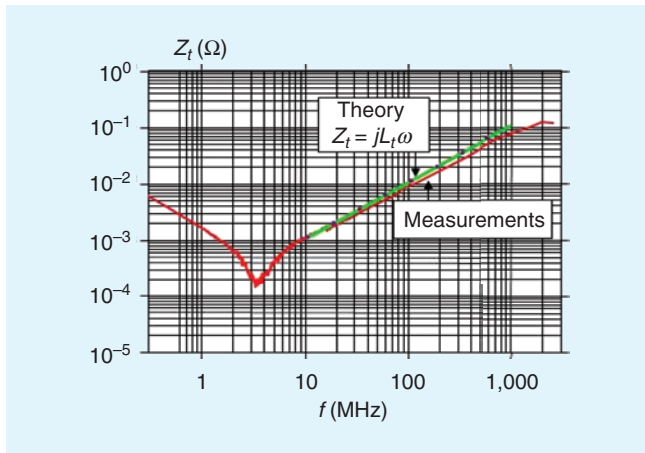

Fig. 15. Transfer impedance of the calibration sample with one aperture deduced from the test carried out with the shield discontinuity method.
The transfer impedance above 100 MHz is precisely determined at voltage maxima. The curves of Fig. 15 allow us to compare the transfer impedance measured by means of the discontinuity setup with the straight line derived from (17). It must be noted that—above 100 MHz—the red curve showing the measurement results is obtained by a linear interpolation of transfer impedances determined for each individual voltage resonance. The green curve, limited to the interval 1 MHz–1 GHz, is the result of the transfer reactance calculation, according to (18), (19) and (20): the excellent agreement with the measurement curve is evident.